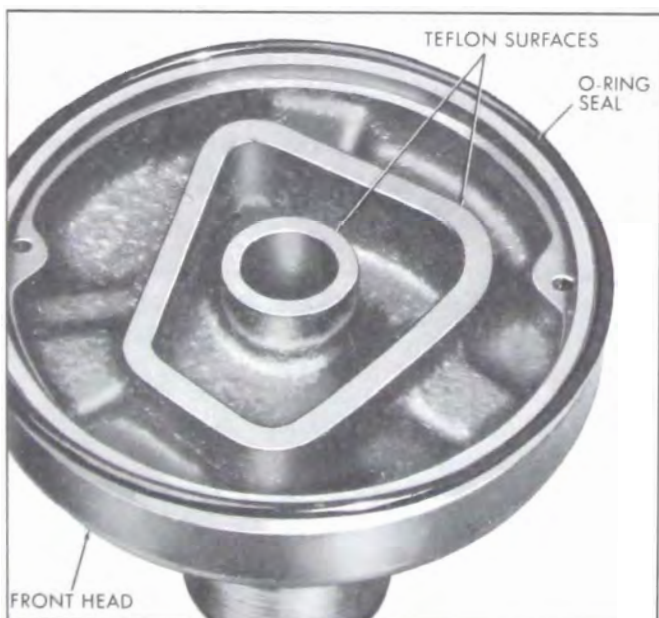

Figure 11-61—Front Head Teflon Sealing Surfaces
7. Examine teflon sealing surface on front head for damage and/or deep scratches. Replace if necessary. See Figure 11-61.